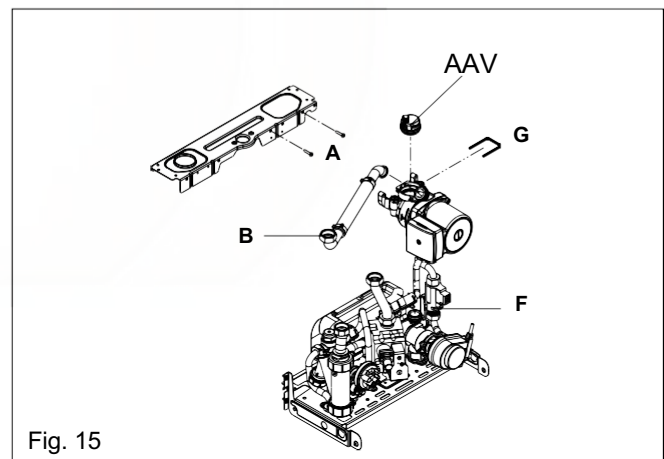

Fig. 15
6.5 PUMP ASSEMBLY fig. 15
- Refer to fig. 15 and remove items A & B
6.6 AUTOMATIC AIR RELEASE VALVE fig.15(AAV)